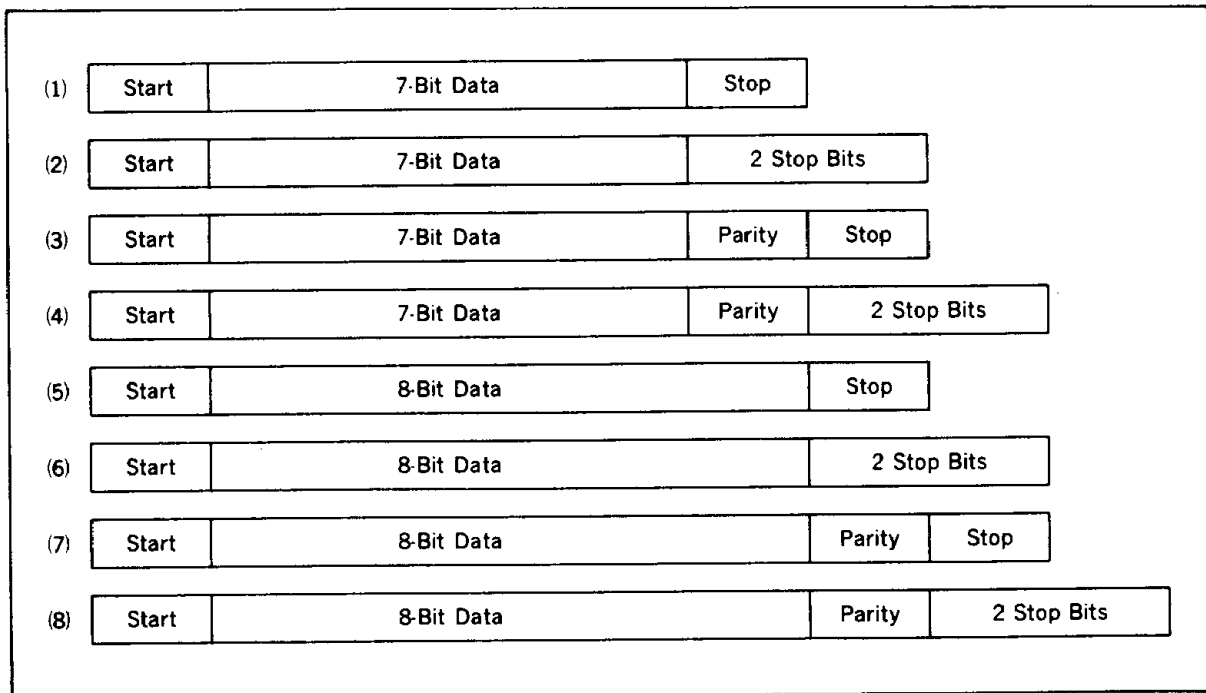

Figure 32. Asynchronous Formats
**Asynchronous Mode**: The asynchronous mode has eight transfer frame formats with 7 or 8 data bits, 1 or 2 stop bits and parity or no parity (figure 32).